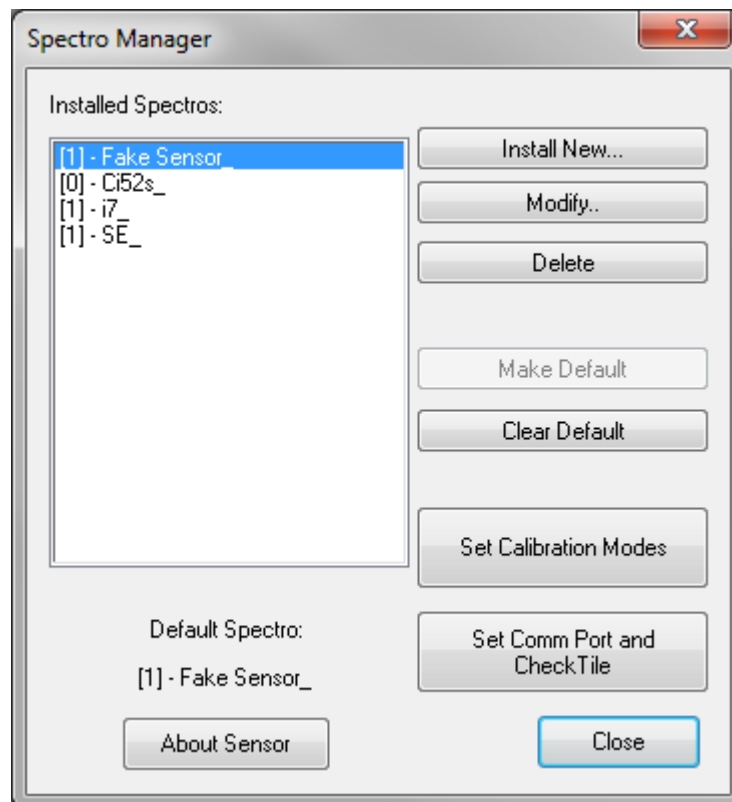

Figure 1 —Spectro Manager Dialog
2. A dialog box titled “Spectro Manager” (See Figure 1) will be displayed.